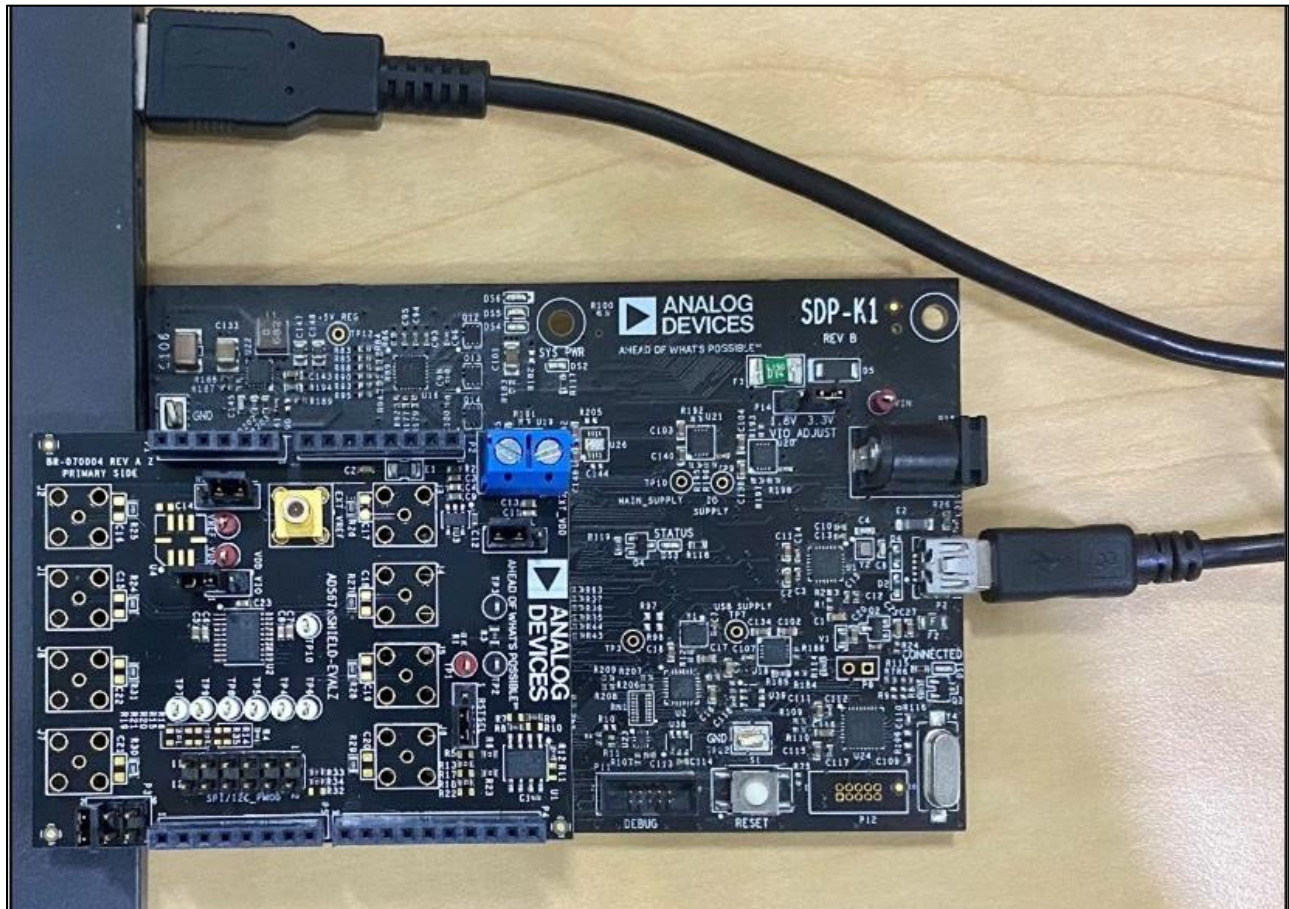

Figure 10 EVB, SDP-K1 and Laptop Connection
2. Connect the EVAL-AD5676RARDZ to the Arduino connector of SDP-K1 (EVAL-SDP-CK1Z) as shown in Figure 10.